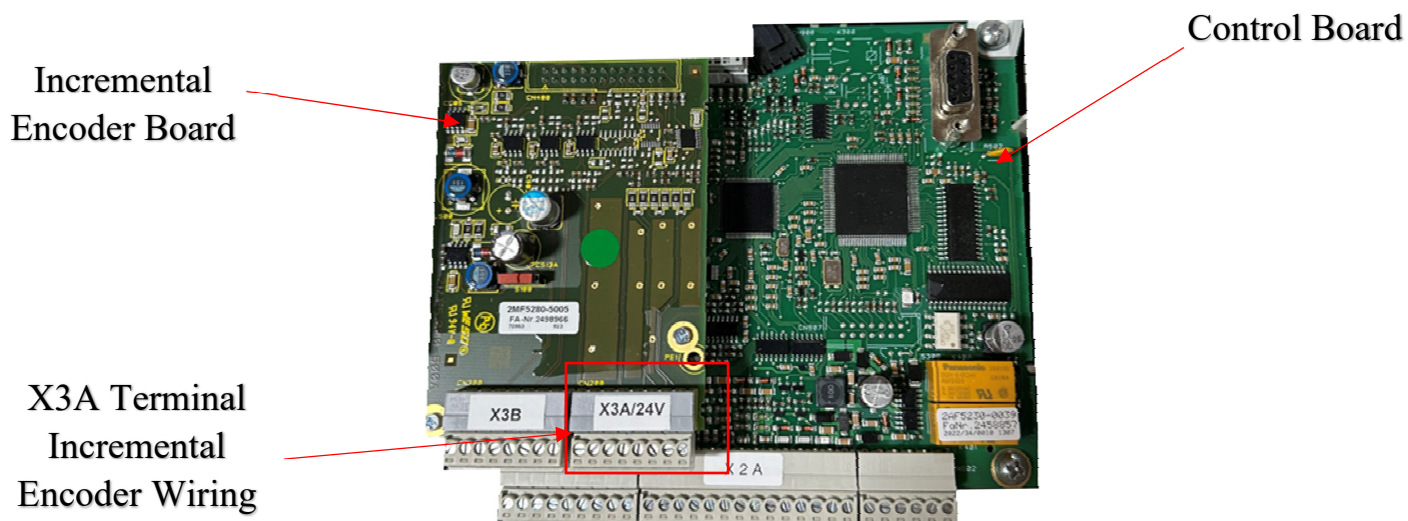

Figure 4: KEB Control Board & Incremental Encoder Strip
- If using an induction motor, connect the encoder to the X3A terminal block on the encoder board in the KEB Drive per figure 4.